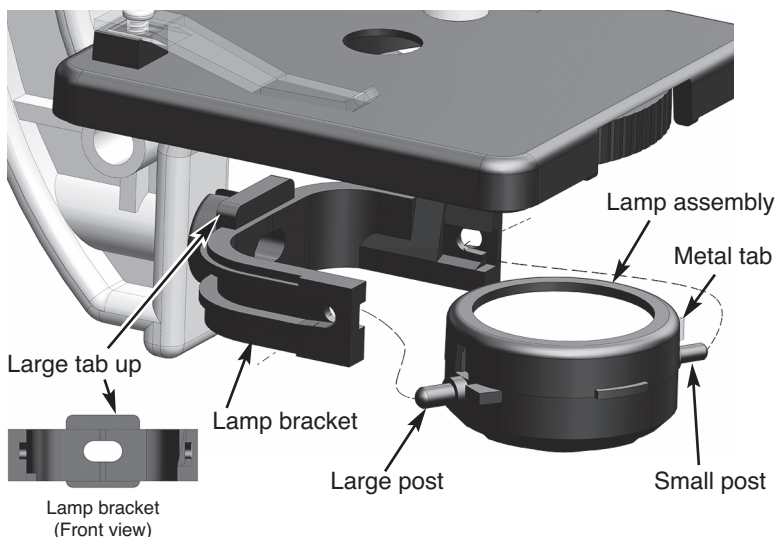

Figure 11
- ❑ Snap the lamp bracket onto the round mounting ball, as shown in Figure 11.